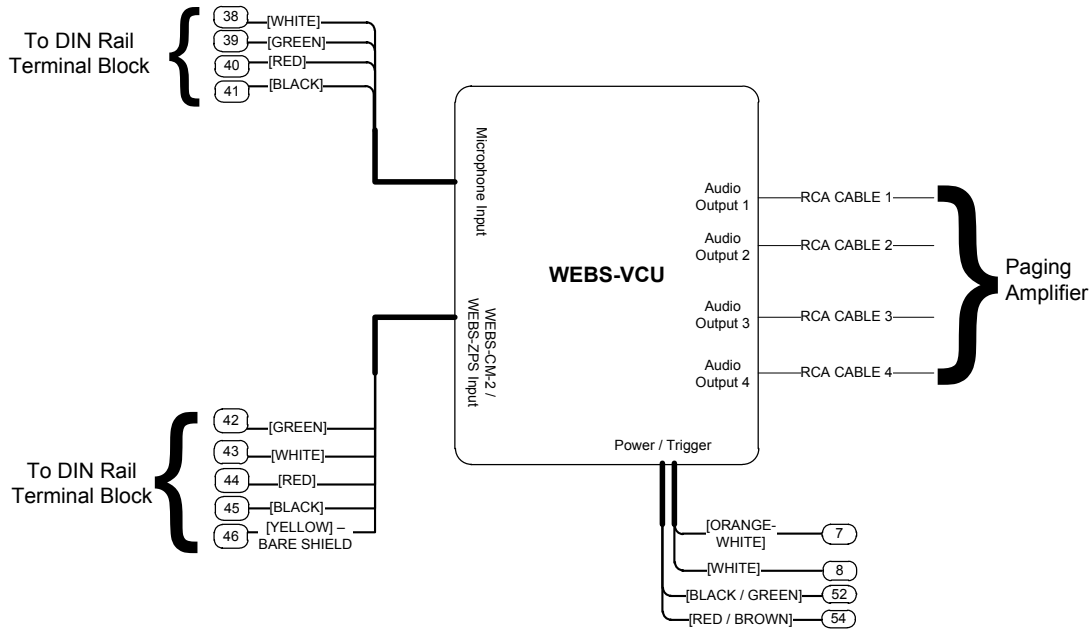

Figure 5. WEBS-VCU, Paging Amplifier and DIN Rail Terminal Block Connectivity Layout
3. Connect the **WEBS-VCU** and the DIN Rail Terminal Block as shown in **Figure 5**. If using the IP paging module (**WEBS-CM-2** or **VOIP-500 Series** Emergency Phone), connect the respective wires to the WEBS-CM-2 Input port on the WEBS-VCU. If using the analog paging module (**WEBS-ZPS**)